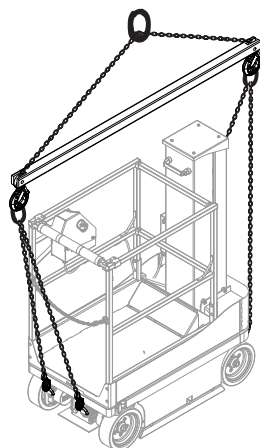

Figure 3-11. Appropriate Lifting Method
- An appropriate spreader bar and straps/chains or other suitable lifting devices may be used during lifting. Refer to Figure 3-11 for an example of an appropriate lifting method.